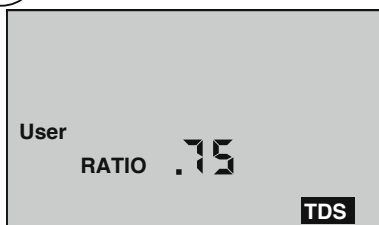

Figure 4
- b. Press $\text{CAL} \over \text{MCLR}$ twice (to skip over tempco adjustment) and “**RATIO**” will appear (see Figure 4).